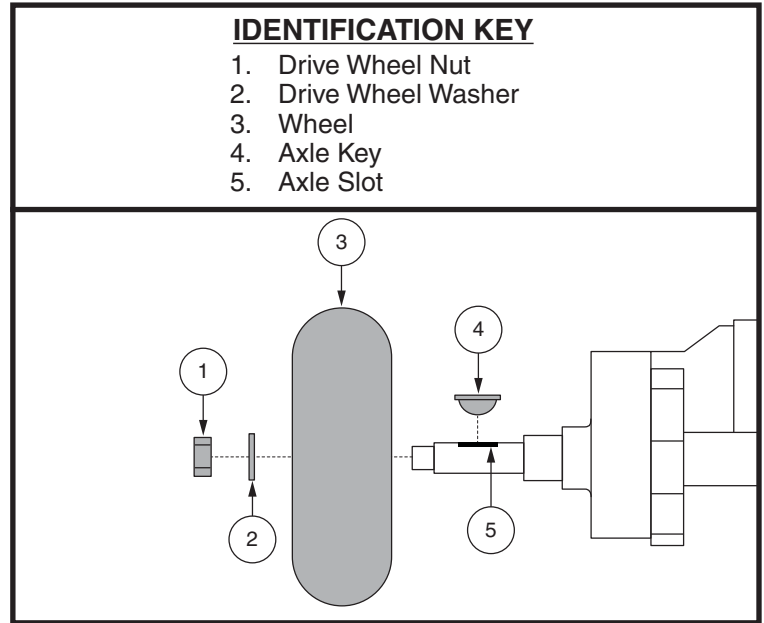

Figure 17. Wheel Replacement
3. Remove the drive wheel nut and washer from the axle. **See figure 17.**